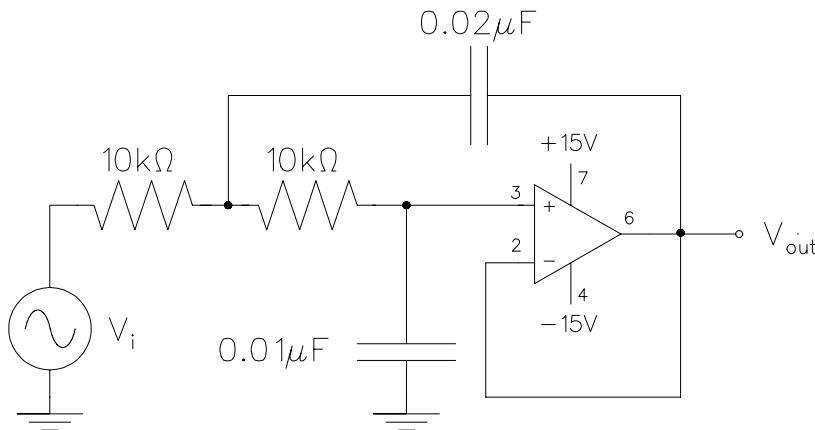

Figure 12.4: Active filter A
- Assemble the circuit in Figure 12.4. Use the oscilloscope to measure V_{in} and V_{out} . Keeping V_{in} constant at, say, 1.0 V, begin by determining a coordinate $(f_0, V(-3dB))$ that gives the corner frequency f_0 of the filter when $V_{out} = 0.7 V_{in}$